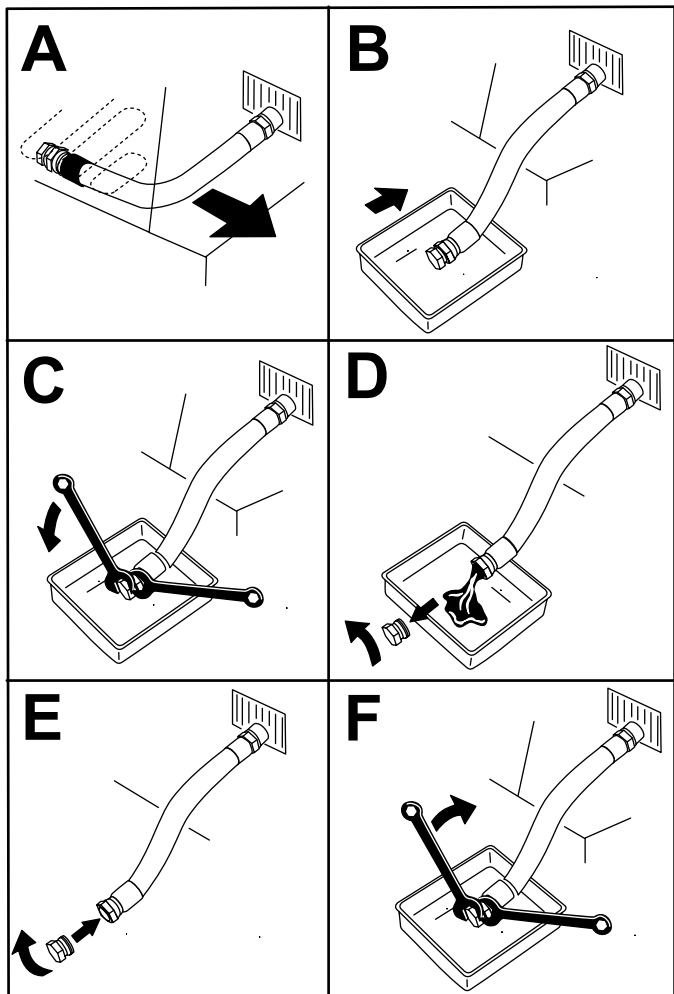

Figure 37
4. Drain the oil from the engine (Figure 37).